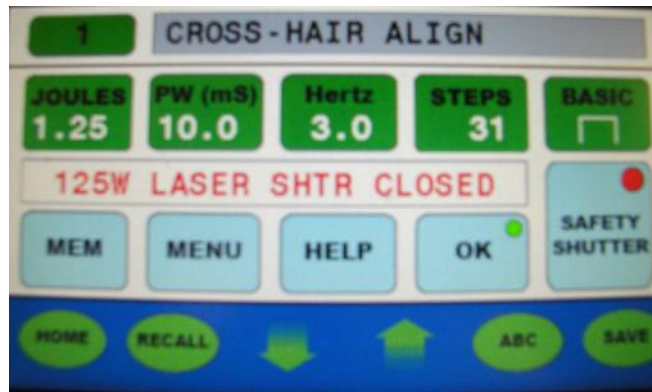

Figure 17
- 16. Press EXIT twice to return to the Main Screen. **(Figure 17)**